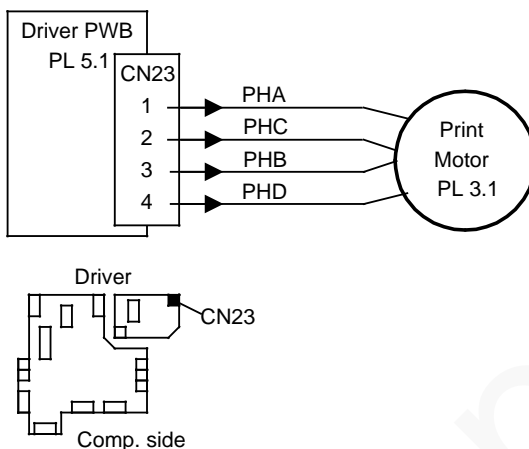

Figure 1. Print Motor
5. Check the print motor drive signals. (Figure 1)
1. Check the ground to the laser. (Figure 1)